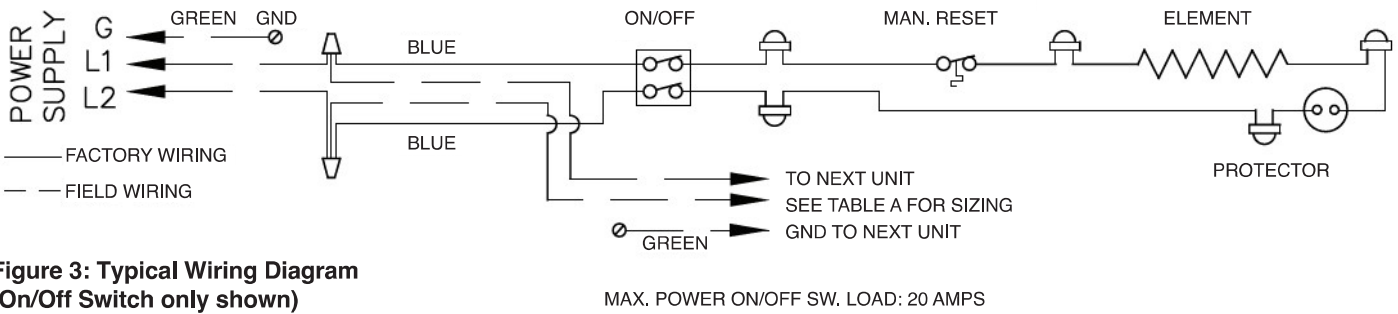
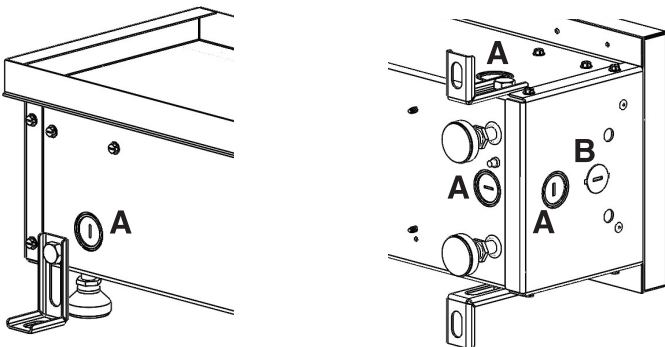

Figure 3: Typical Wiring Diagram (On/Off Switch only shown)
Figure 4A: Knockout Locations
- Run branch circuit of proper voltage and wire size to location of left or right (future) junction box as indicated on heater wiring diagram – example in Fig.3. Heaters are prewired for connection to branch circuit at one end only (refer to heater wiring diagram). However, heater can be wired from opposite end by running wires through heater wire way. See Figures 4A & 4B for knockout locations.
2. Remove appropriate electrical knockouts from either end cap, side or bottom. See Figures 4A & 4B for location of knockouts.
3. Remove appropriate electrical knockouts from either end cap, side or bottom. See Figures 4A & 4B for location of knockouts.